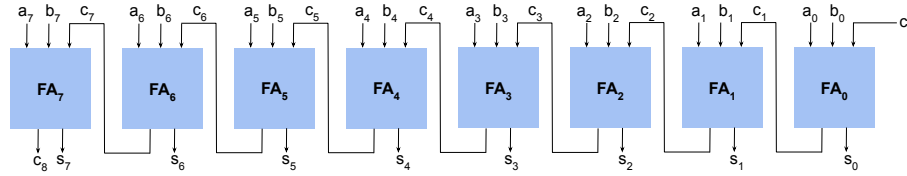

Figure 1: An 8-bit Ripple Carry Adder (RCA) using FAs
RCA is designed as a chain of Full Adders (FA), as depicted in Figure 1. Each FA has three inputs (a_i , b_i , c_i) and two outputs (c_{i+1} , s_i). RCA is simply a chain of connected FAs where the carry in (c_i) of the full adder at the bit position $i + 1$ is the carry out of a FA at bit position i .